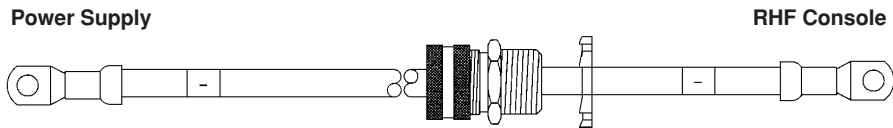

Figure 3-11 Negative Lead (-)
#### ② Negative Lead (-) (Figure 3-11)